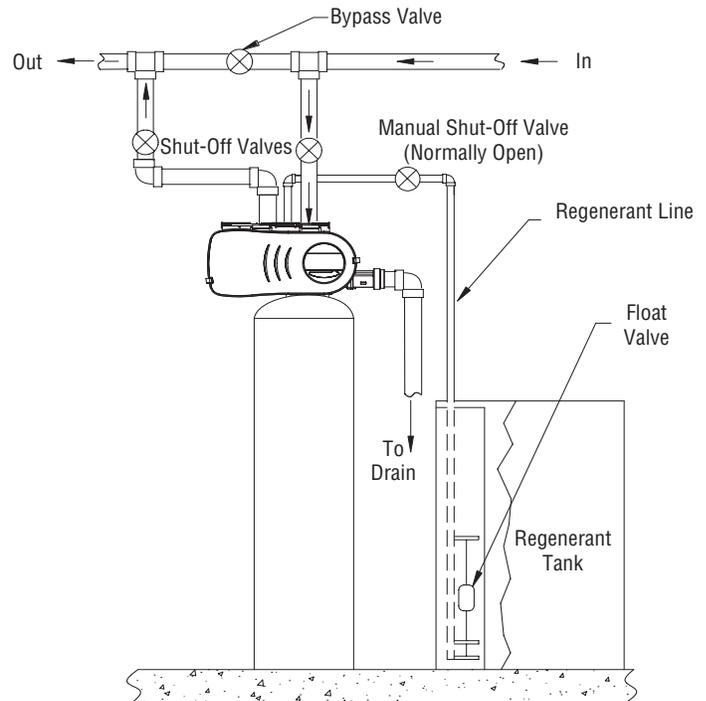
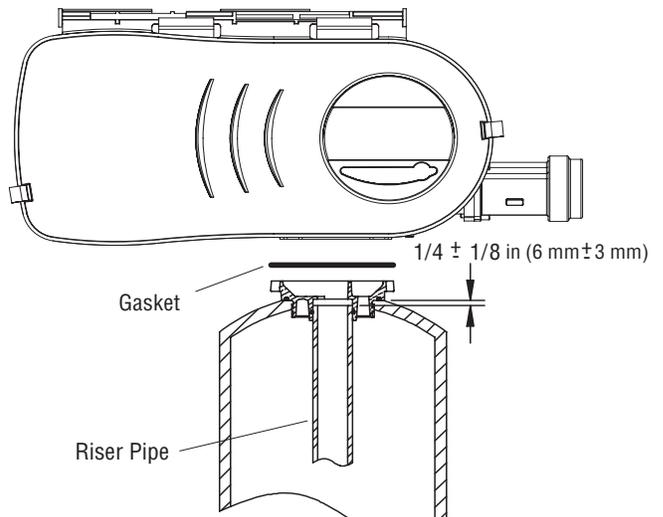

Figure 1 Typical Top Mount Installation
Figure 6 Layout for Top Mount
The water conditioner should be assembled, piped and wired according to the water treatment equipment manufacturer's recommendations and local requirements. The following instructions are provided as a general guide. Figure 1 through Figure 6 illustrate typical installations.
1. Make sure the riser pipe is 1/4-inch ± 1/8-inch (6 mm ± 3 mm) below the top of the tank, Figure 6.